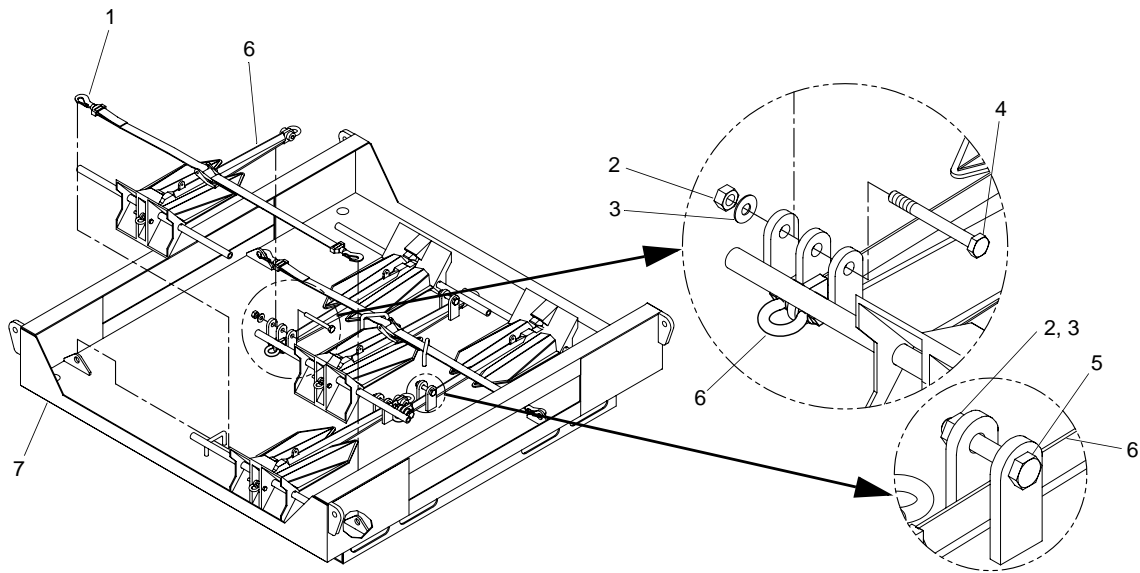

Figure 3. Onshore Anchor Stowage
- a. Remove tie down straps (figure 3, item 1).
- b. Remove nuts (figure 3, item 2), washers (figure 3, item 3) and bolts (figure 3, items 4, 5) securing onshore anchor (figure 3, item 6) to pallet (figure 3, item 7). Lay the hardware in the pallet (figure 3, item 7).
- c. Using assistant, lift the anchor (figure 3, item 6) out of the pallet (figure 3, item 7) and position anchor (figure 3, item 6) on beach.